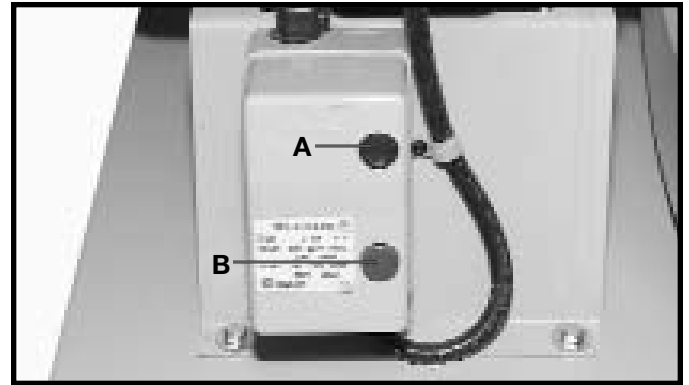

Fig. 36
The “on/off” switch is located on the side of the motor stand. To turn the dust collector “ON”, push button (A) Fig. 36. To turn the dust collector “OFF”, push button (B).